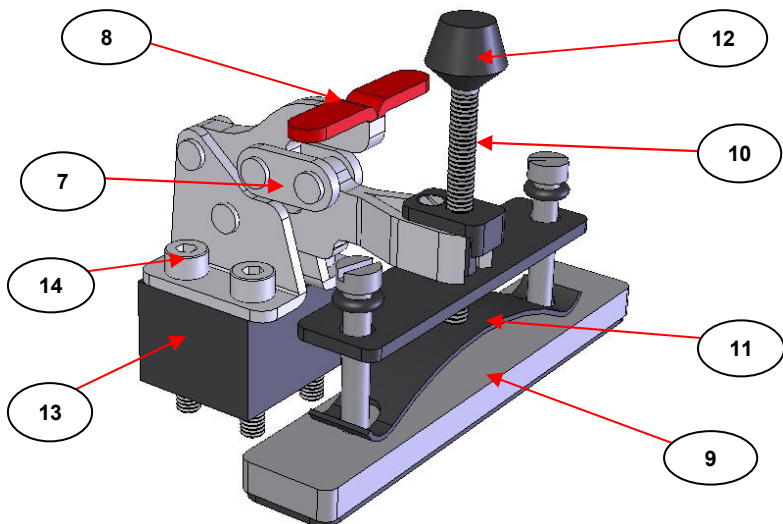

Fig 2. Gateway™ ATR Clamp Assembly
The complete Gateway™ ATR clamp assembly (1) consists of a movable (up and down) arm mechanism (7) which is locked into its down position when the top T-bar handle (8) is pushed fully down and closed. (As shown in **Fig 2.**) The arm mechanism (7), that is raised by pulling up on the T-bar handle (8) or lowered by pressing down on the T-bar handle (8), is connected to a pressure plate and pad assembly (9) with use of an adjustable screw (10) for tensioning of a spring bar (11). The pressure plate and pad assembly (9) provides the force against a solid sample (in either solid, powder or film forms) to bring its sampling surface into sufficient contact against the ATR crystal in a flat top plate assembly (4) in order to obtain an ATR spectrum for the sample. The screw (10) is turned in a clockwise direction by the rubber knob piece (12) to exert more force on the spring bar (11) and anticlockwise to reduce the force for tensioning of the spring bar (11), which in turn adjusts accordingly for a sample force contact to the ATR crystal.